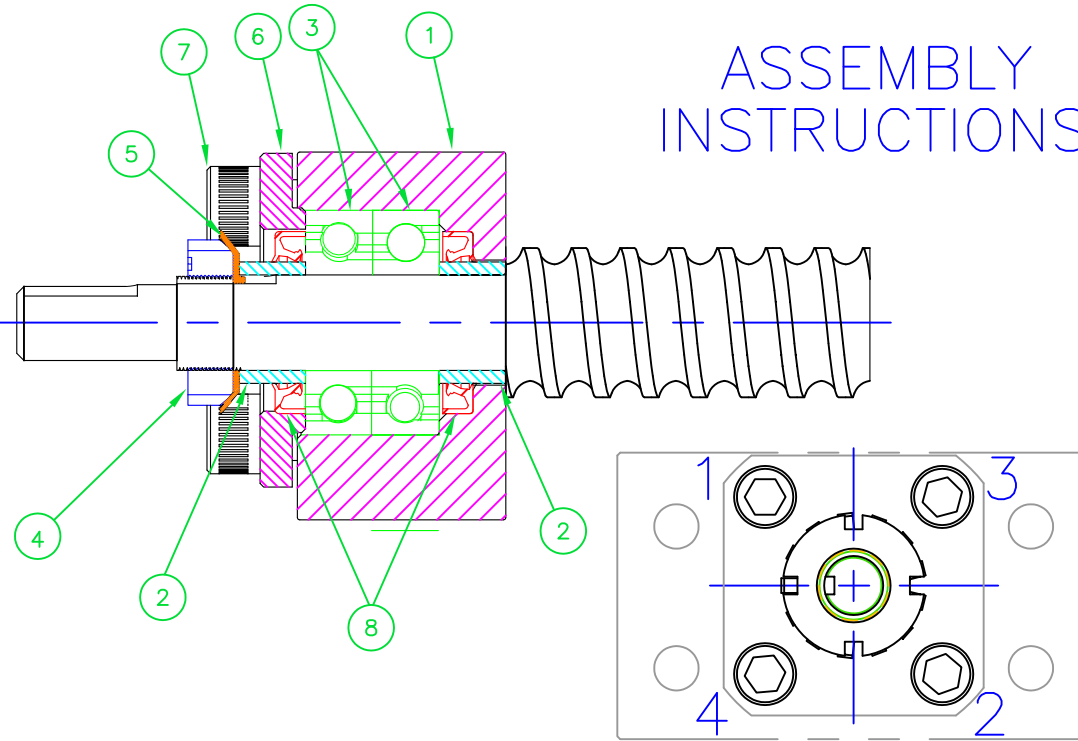

FIGURE 1
5. ATTACH END CAP (6) AND SEAL (8) WITH SOCKET HEAD CAP SCREWS (7).
NOTE: TORQUE SOCKET HEAD CAP SCREWS PER TABLE 1. FOLLOW PATTERN (FIG 1). THERE WILL BE A GAP BETWEEN HOUSING (1) AND END CAP (6).
6. INSTALL LOCK WASHER (4) AND LOCKNUT (5).